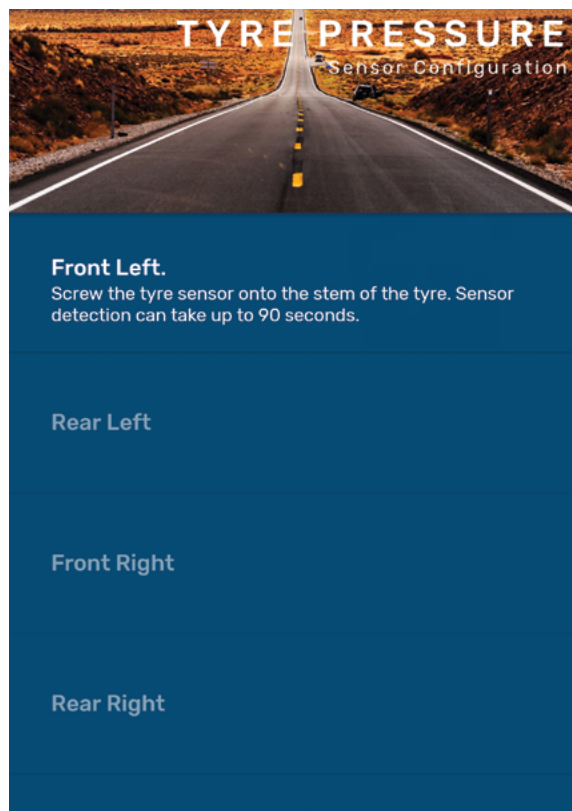

Fig.16
PRESSURE app screen if not having done so already. The app will display a list of tyres with instructions to screw the first stem sensor onto the Front Left tyre stem (Fig.16).
B. Install a stem sensor onto the tyre stem in the proper sequence (Fig.16) and wait for the smart phone to indicate the sensor was found (Fig.17A).